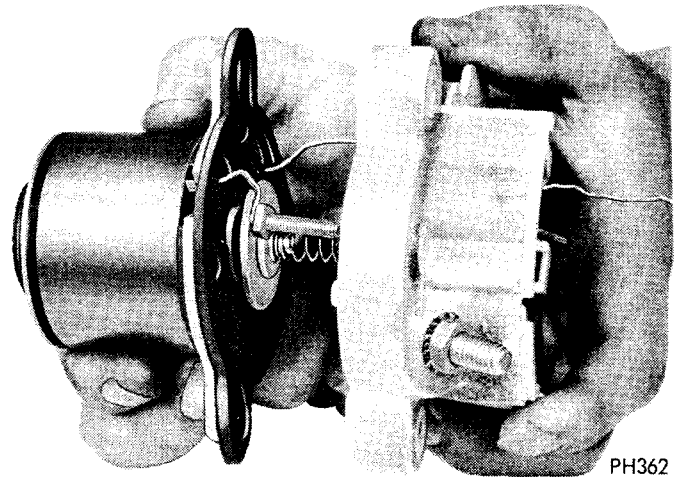

Fig. 10—Removing Solenoid
(11) Remove solenoid from brush plate. (Fig. 10).